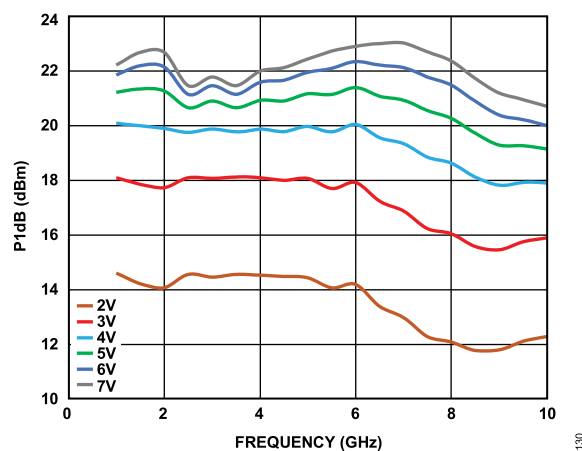
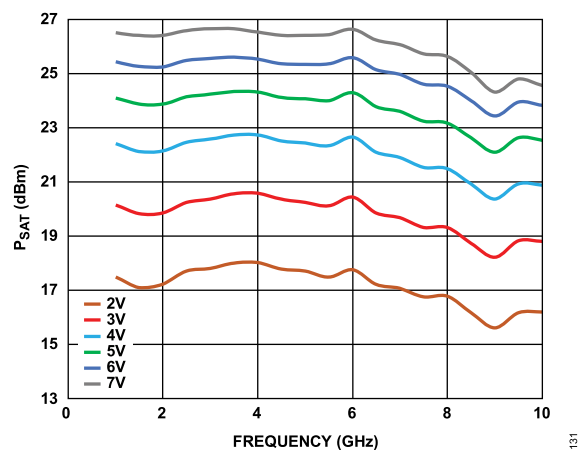

Figure 31. P1dB vs. Frequency for Various Supply Voltages,  $I_{DQ} = 65$  mA
Figure 32.  $P_{SAT}$  vs. Frequency for Various Supply Voltages,  $I_{DQ} = 65$  mA
Figure 19, Figure 31, and Figure 32 show that increasing the voltage from 2 V to 7 V typically increases P1dB and  $P_{SAT}$  at the expense of power consumption with minor degradation on noise figure (NF).